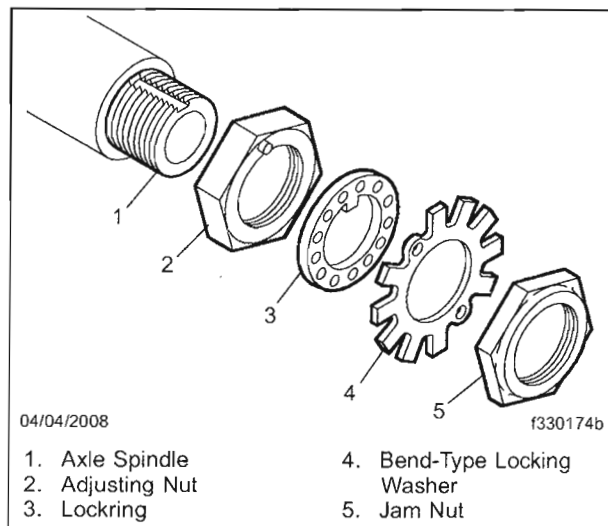
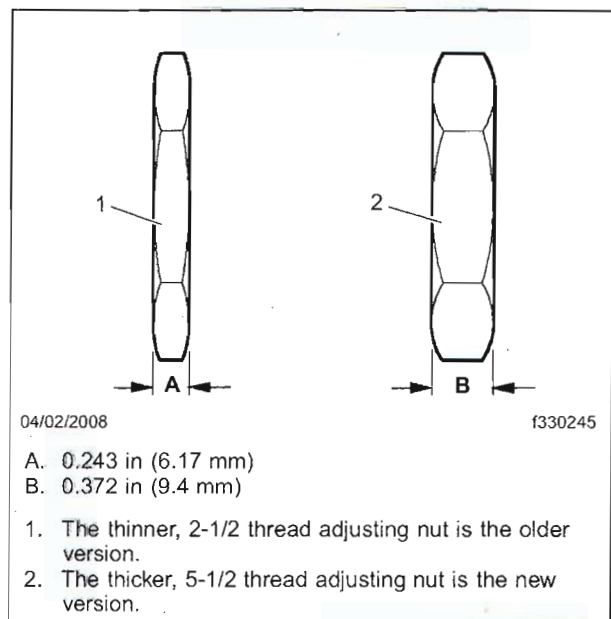

Fig. 5, New Four-Piece Spindle Nut Set
Fig. 6, Wheel-Bearing Adjusting Nuts
2. Install the new spindle nut set, which includes the thicker wheel-bearing adjusting nut. See **Fig. 5** and **Fig. 6**.
- 2.5 Install the lockring (as described in the note above), bend-type locking washer, and jam nut. See **Fig. 5**.